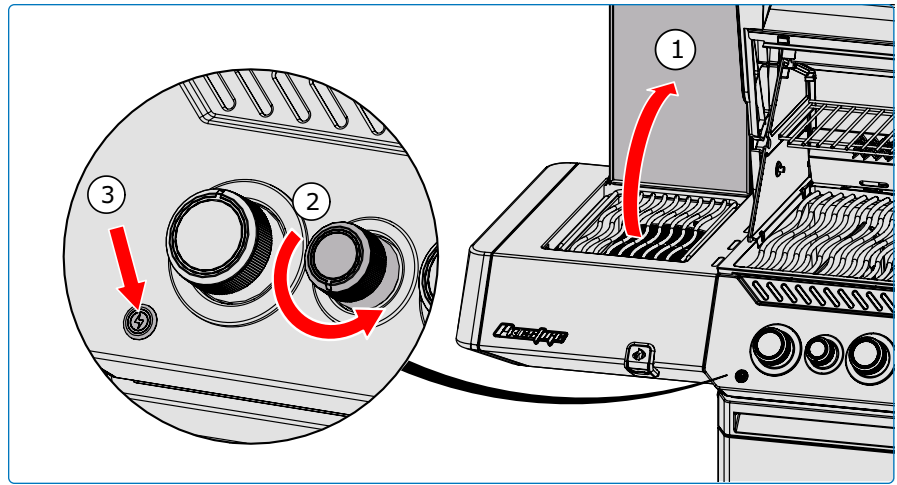

Fig. 7
4. If the burner will not ignite within 5 seconds – turn burner control knob clockwise to the OFF position. Wait 5 minutes. Repeat steps 2 and 3. **(Fig. 7)** or see "Alternative Ignition Instructions"